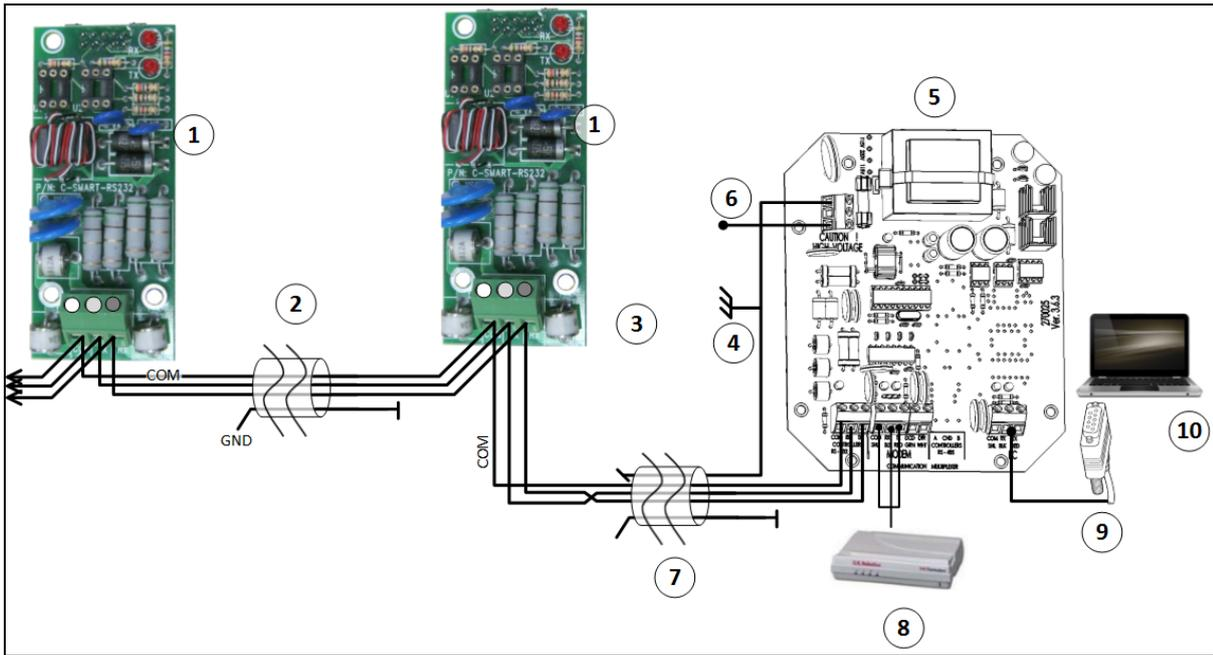

Figure 7: Smart C Communication RS-232 Wiring Diagram
- Figure 7: Smart C Communication RS-232 Wiring Diagram
Figure 7 key